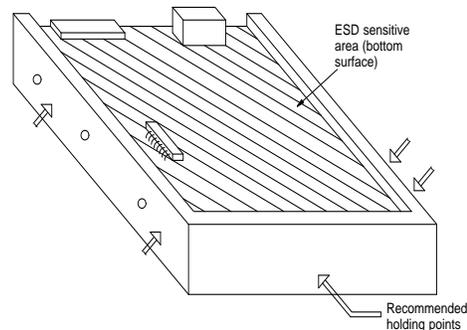

Figure 2-3. ESD-Sensitive Area of an Electronic Component
- Hold devices such as a hard disk, floppy drive, or streaming tape as you would a large circuit card. The ESD-sensitive area of these components is located on the bottom surface. Hold these drives as shown in Figure 2-3.